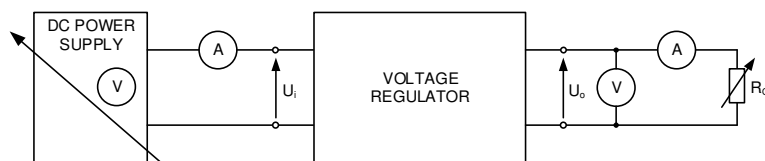

Fig.2. Measurement diagram.
2. Connect the DC power supply to the regulator input and adjust the load in series with the ammeter. Connect voltmeters to the input and output (fig.2).